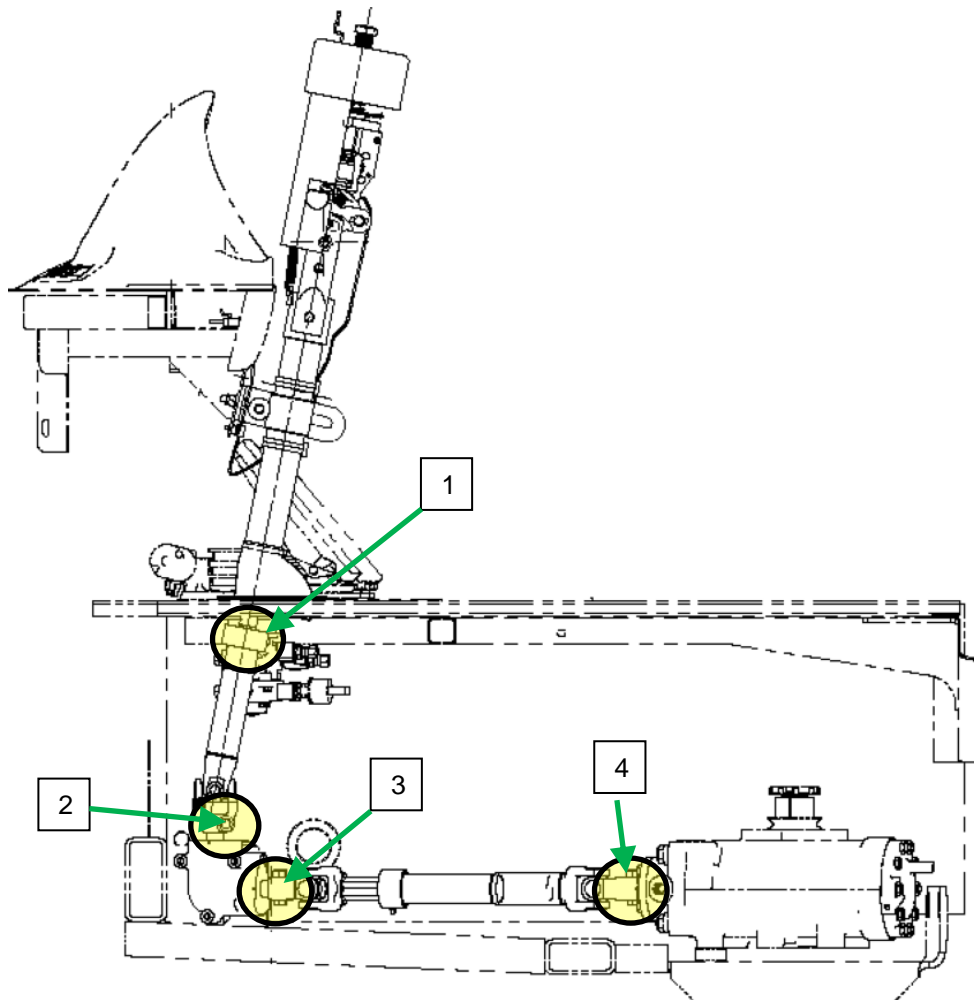

Figure 1: Locations to Torque on Steering System
3. On the steering assembly of the bus with the steering assembly still installed in the bus, please torque the hardware in the four locations shown in Figure 1 to $70\pm 4\text{Ft/Lbs}$ dry. Please ensure that the bolts are $7/16'' - 20 \times 2.00''$; Grade 8; Zinc (NF PN 6444255) & the nuts are $7/16'' - 20$; Self Locking; Zinc (NF PN 6444254). If any 10MM hardware is found in any of these four locations it should be removed and replaced. Remove existing torque witness marks and re-mark after new torque has been applied.
4. After the new torque has been applied, inspect for any free play at the splined, torqued joint between the steering column and the upper steering drive shaft, which is identified as Area #1 in Figure 1, by grasping the drive shaft mid-length and applying a lateral force. There should be no free play in this torqued joint. If no free play has been found, the bus is safe to return to service.
5. If free play is found at the splined, torqued joint between the steering column and the upper steering drive shaft, which is identified as Area #1 in Figure 1, please proceed to remove the steering column & upper steering drive shaft from the bus for closer inspection on the shop bench.